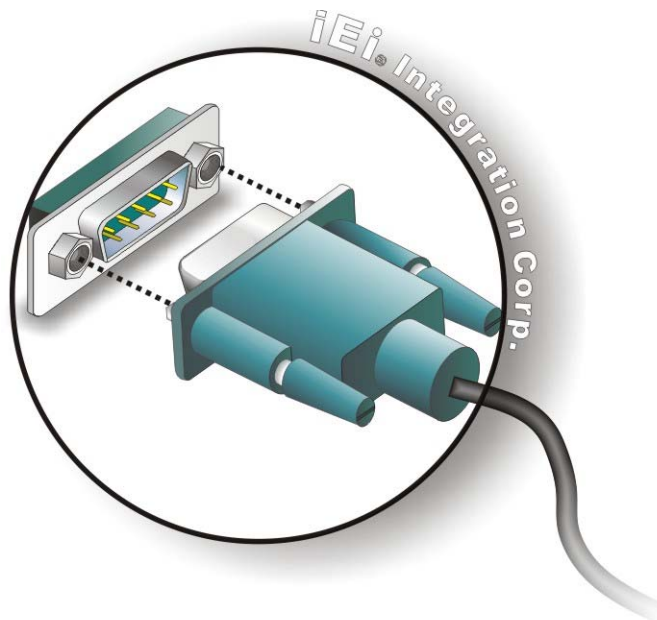

Figure 4-20: Serial Device Connector
Step 2: **Insert the serial connector.** Insert the DB-9 connector of a serial device into the DB-9 connector on the external peripheral interface. See **Figure 4-20**.